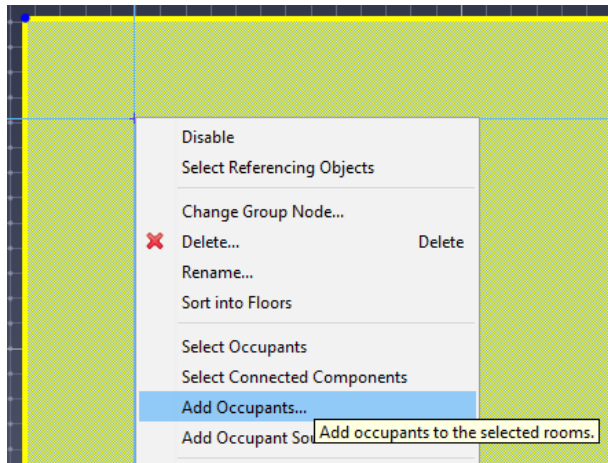
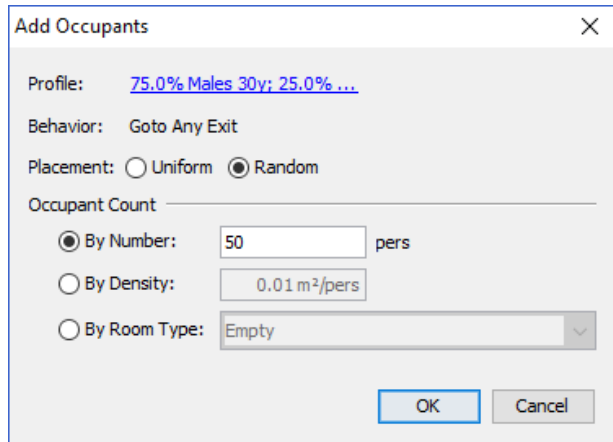

Figure 103. Add occupants in context menu
Figure 104. Add occupants dialog
1. Select the desired rooms and choose **Add Occupants** from the **Model** menu or the right-click menu as shown in Figure 103. This will bring up the Add Occupants dialog (Figure 104). For an explanation of the dialog's options, please see Section 5.4.2.